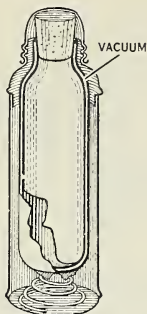

Fig. 182. Why does a vacuum bottle keep contents either cold or hot?
**How heat is transmitted.** Your hand is warmed in the sun while the air above it is cool. We say the radiant energy of the sun is absorbed and sets the molecules of the flesh in more rapid motion. In this instance heat is transferred by (1) *radiation*. When you hold one end of a wire in the flame, the other end soon gets hot. The molecules of iron set in motion by the flame pass the motion along. Heat is transferred by (2) *conduction*. When air or water is heated at the bottom of a container, it moves upward carrying the absorbed heat. Heat is thus transferred by (3) *convection*.
**Thermos bottles.** In refrigerators, thermos bottles, and fireless cookers we try to prevent the transmission of heat. The construction of a thermos bottle is shown in Figure 182. You will see that the bottle is really two bottles; one inside the other. The air has been drawn out from between these two bottles and the bottles